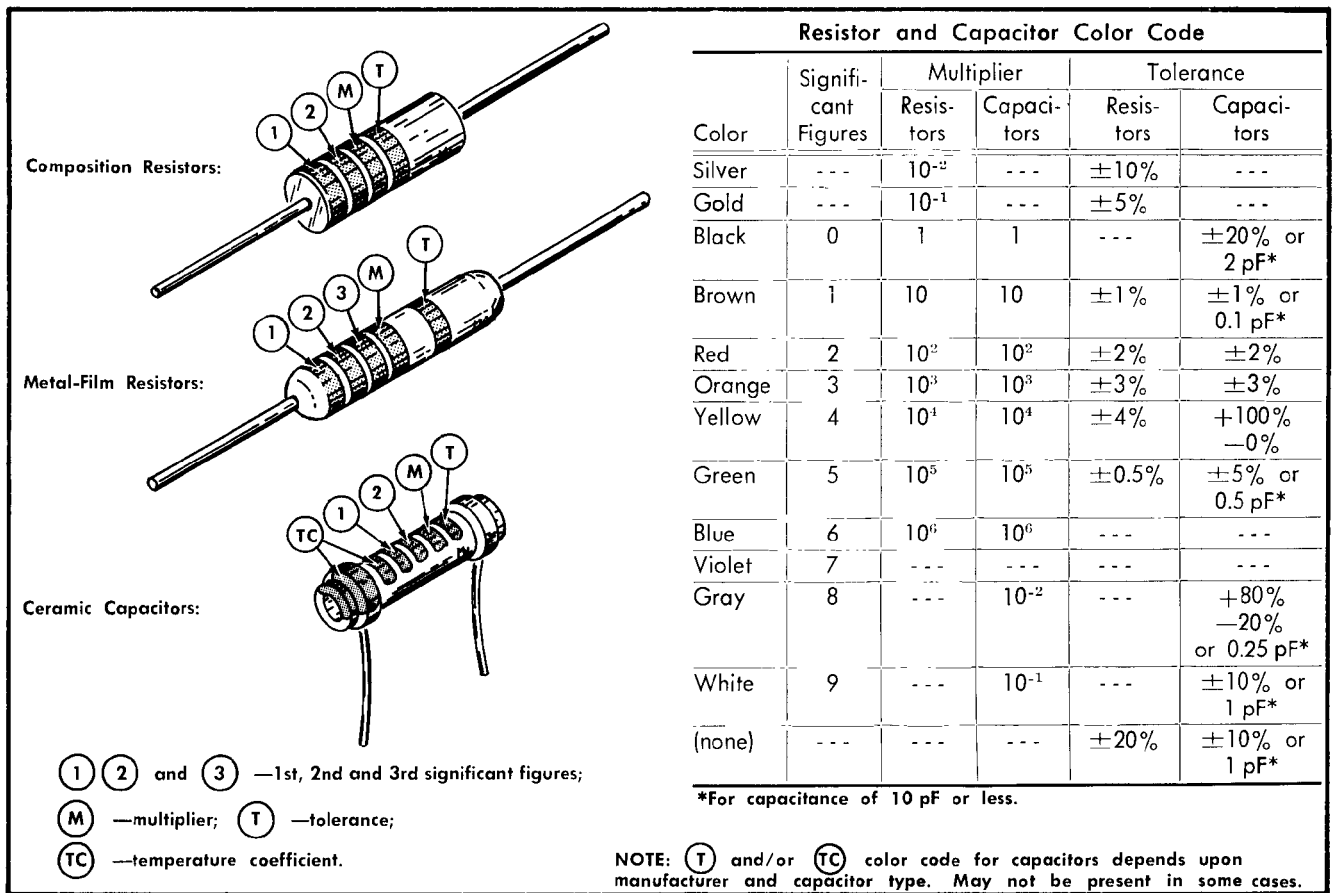

Fig. 4-1. Color-code for resistors and ceramic capacitors.
**Resistor Color Code.** In addition to the brown composition resistors, some metal-film resistors and some wire-wound resistors are used in the Type 10A2A. The resistance values of wire-wound resistors are printed on the body of the component. The resistance values of composition resistors and metal-film resistors are color coded on the components with EIA color code (some metal-film resistors may have the value printed on the body). The color code is read starting with the stripe nearest the end of the resistor. Composition resistors have four stripes which consist of two significant figures, a multiplier and a tolerance value (see Fig. 4-1). Metal-film resistors have five stripes consisting of three significant figures, a multiplier and a tolerance value.
**Capacitor Marking.** The capacitance values of common disc capacitors and small electrolytics are marked in microfarads on the side of the component body. The white ceramic capacitors used in the Type 10A2A are color coded in picofarads using a modified EIA code (see Fig. 4-1).